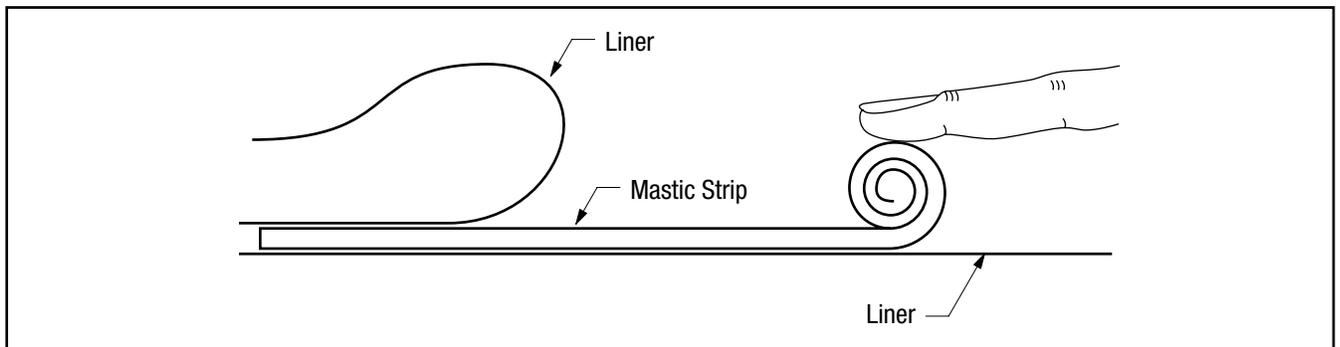

Figure 4
- 3.3 Remove the liner from one side of 2 mastic strips. Roll each strip into a tight roll as shown (Figure 4).